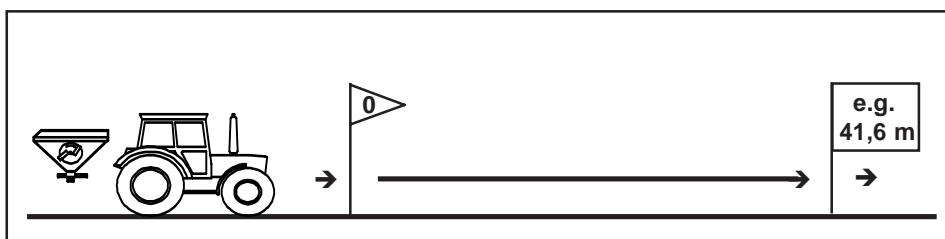

Fig. 7.15
- Carefully measure the test distance in the field. Mark beginning and end of the test distance (Fig. 7.15).